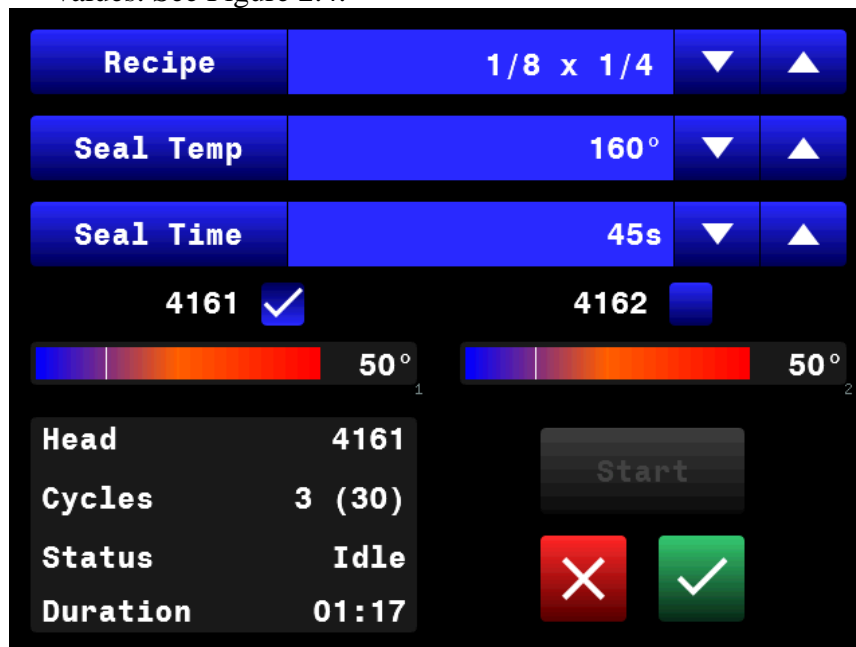

Figure 2.4 Confirm or cancel recipe changes
- 2.3.3. The main control screen allows users to adjust the process parameters for each recipe. See numbers 1 – 8, above. When a user changes a parameter, he or she must confirm the change before the modified process can run. Press the *check* button to confirm changes; press the X button to restore the existing parameter values. See Figure 2.4.